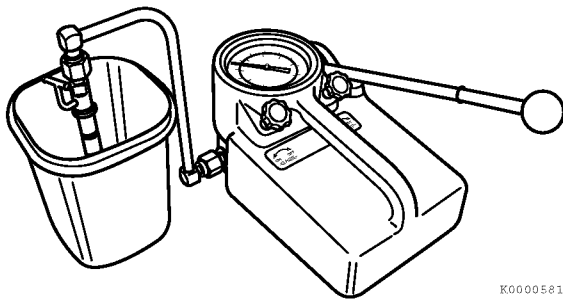

Figure 7-46
4. Pump the operating lever of the tester slowly, observing the pressure reading at the point where the fuel injector begins spraying fuel (**Figure 7-46**).